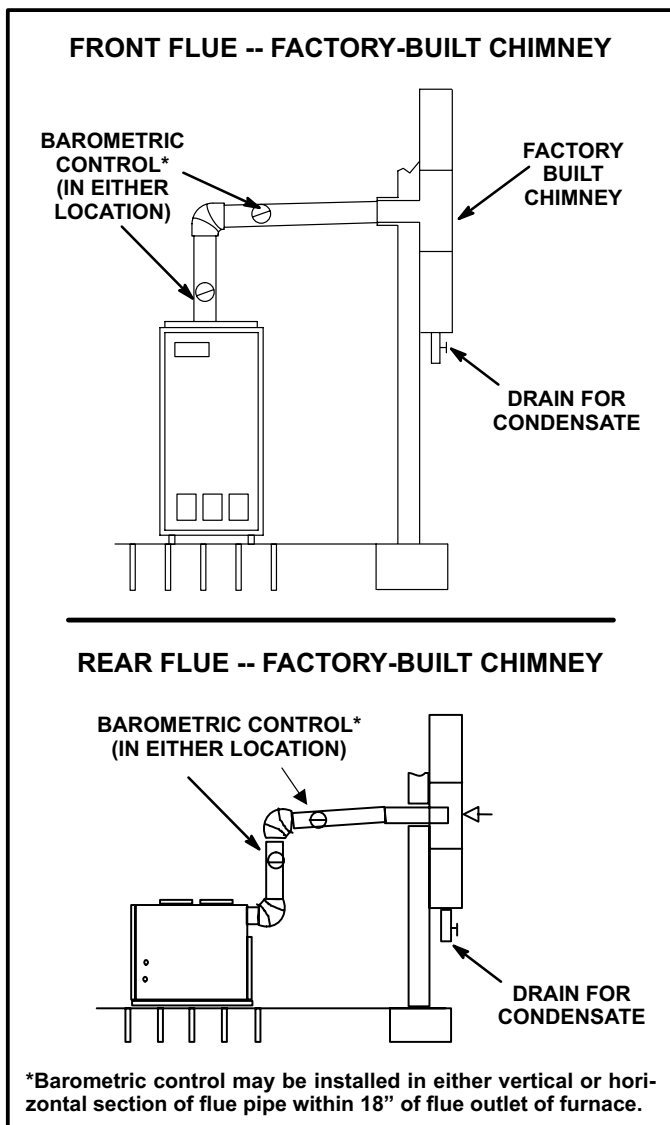

Figure 13
- 15- All vent pipe run through unconditioned areas or outside shall be constructed of factory built chimney sections. See figure 13.